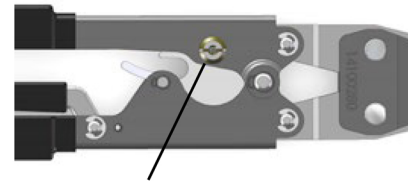

Fig. 9: Adjustment nut
1. Using a straight blade screw driver, loosen adjustment nut (Fig. 9).